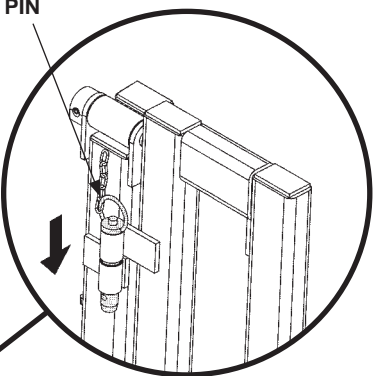
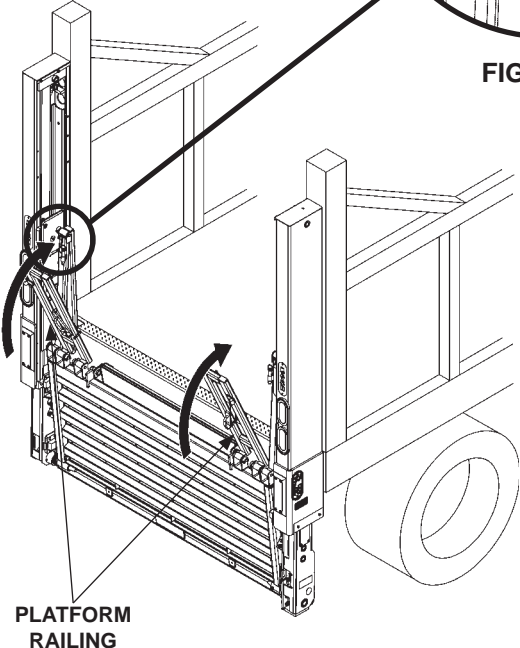

FIG. 32-1B
FIG. 32-1A
4. When finished loading and unloading from the dock, raise platform railing on each side of platform as shown in FIG. 32-1A. Pin platform railing to platform as shown in FIG. 32-1B.